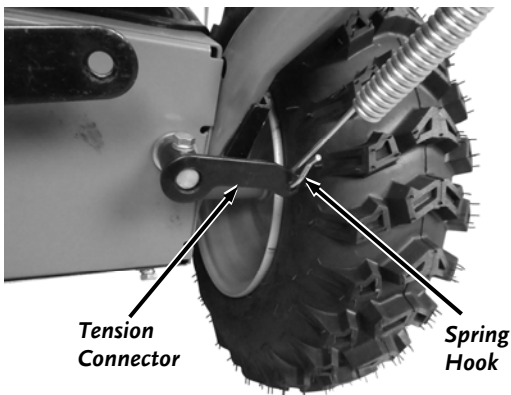

Figure 9
4. Attach the Spring Hook of the Auger Control Cable into the Tension Connector at the right side of the machine (**Figure 9**).